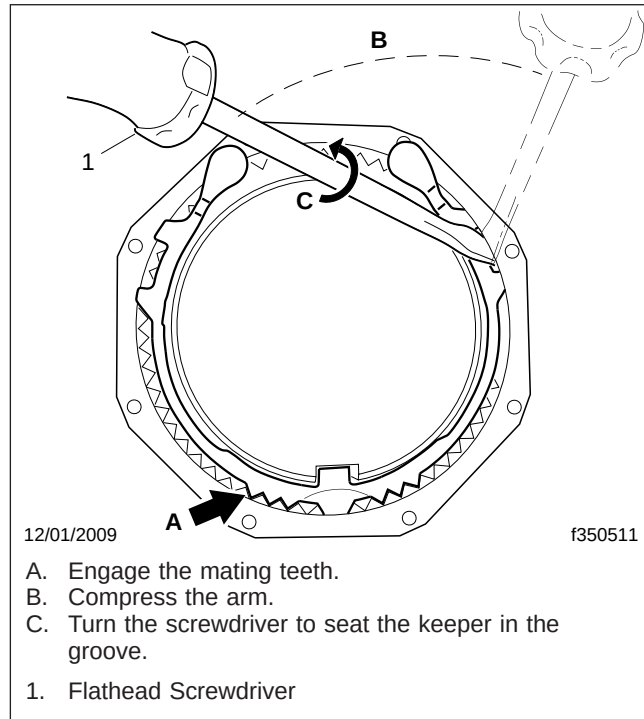

Fig. 4, Installing the Keeper
- 3.3 Use a flathead screwdriver to carefully compress and guide each arm past the lip and into the undercut groove of the nut as shown in **Fig. 4**. To secure the keeper it
- 5.3 Use a flathead screwdriver to carefully compress and guide each arm past the lip and into the undercut groove of the nut as shown in Fig. 4. To secure the keeper it may be necessary to nudge the arms into the groove.